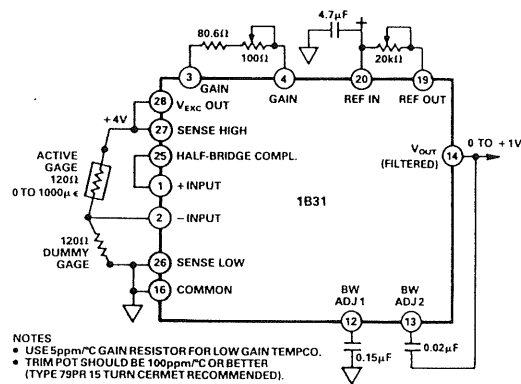

Figure 15. Strain Gage Application Using Internal Half-Bridge
**Strain Measurement:** The 1B31 is shown in a strain measurement system in Figure 15. A single active gage (120  $\Omega$ , Gage Factor = 2) is used in a bridge configuration to detect fractional changes in gage resistance caused by strain. An equivalent resistance